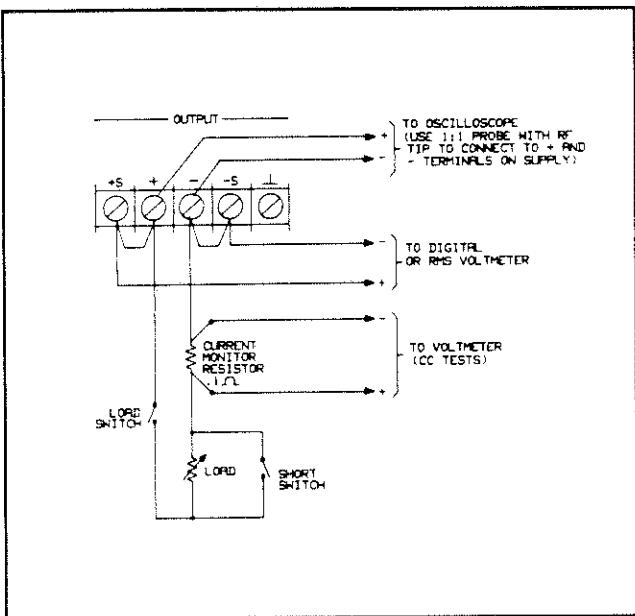

Figure 3-2. Basic Test Setup
- Turn off the supply and connect the output to be tested as shown in Figure 3-2 with the DVM connected between the + S and - S terminals, the Load switch closed, and the Short switch opened.
- Connect the output as shown in Figure 3-2 with the DVM connected between the +S and -S terminals, the Load switch closed, and the Short switch opened. Set the transformer to the nominal line voltage.
- Turn off the supply and connect the output as shown in Figure 3-2 to an oscilloscope (ac coupled) between the + and - terminals. Use only a resistive load for this test. Close the load switch and open the short switch. Set the oscilloscope's 20 MHz bandwidth limit on and use an RF tip on the oscilloscope probe. Also, make sure that the OUTPUT MODE switch on the supply's rear panel is in the NORMAL position.